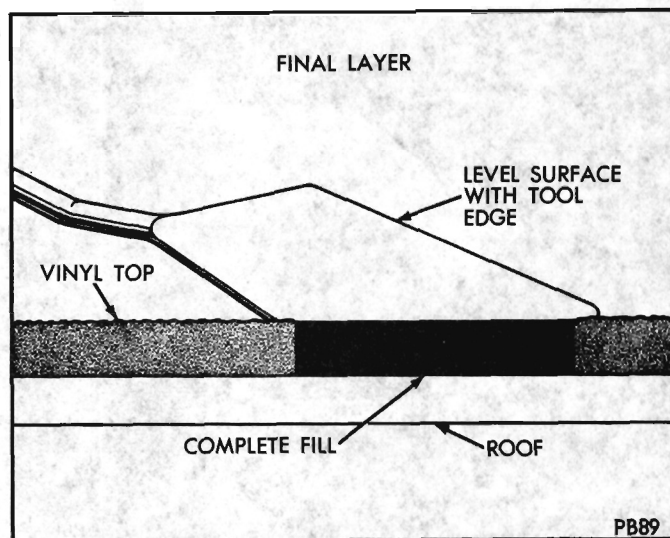
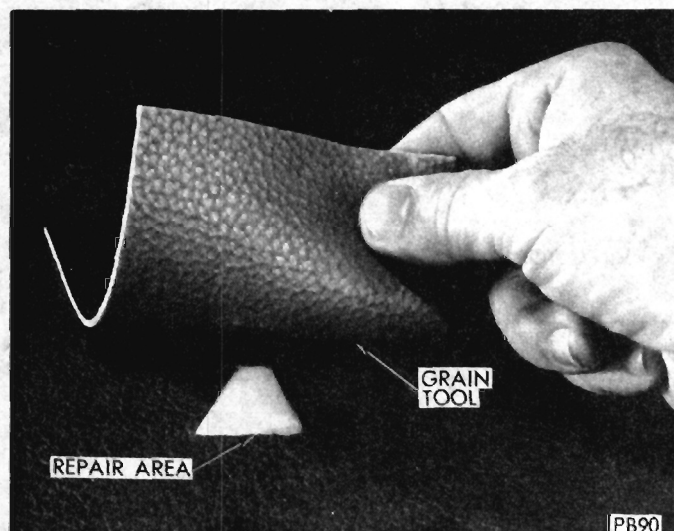

FIG. 9 Final Layer Application
FIG. 10 Grain Pattern Die Application
(17) The welding compound on the fourth or last weld must be leveled off flush with the top surface using an offset palette knife as a straight edge before applying heat (Fig. 9).
(18) When satisfied that the last weld is flush with the surface, then grain or print the repair by heating the repair until the surface material in the immediate vicinity begins to shine.
(19) Remove the heat gun in the one hand and with the other firmly press the graining tool into the hot surface, holding it there about five seconds (Fig. 10).
(20) When the graining tool is removed the technician will find he has grained his repaired hole and blended the grain into the material around it.